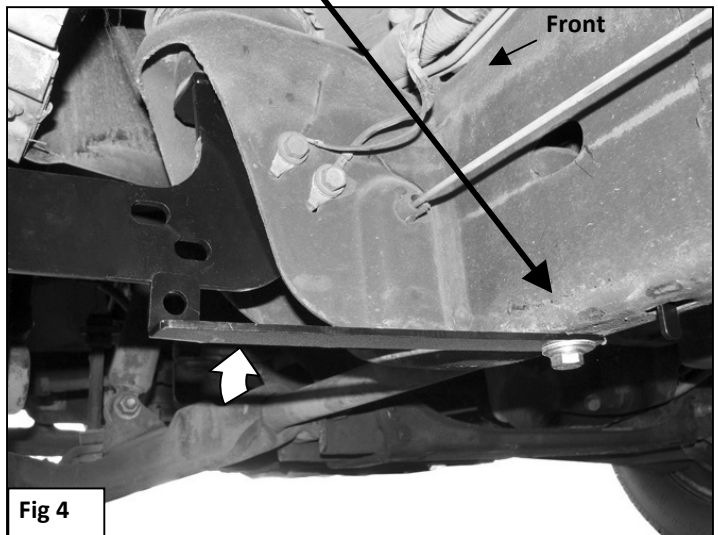

Fig 4
Note that the Front Support Bracket will not reach up to the Mounting Bracket, **(Figures 3 & 4)**. Tighten the Support Bracket to the Nut Plate in the frame. Carefully push up on the Support Bracket until it reaches the inside hole in the Mounting Bracket, **(Figure 4)**. Bolt the Support Bracket to the hole in the Mounting Bracket with (1) 10mm x 30mm Hex Bolt, (2) 10mm Flat Washers, (1) 10mm Lock Washer and (1) 10mm Hex Nut, **(Figure 3)**. Do not tighten hardware at this time.